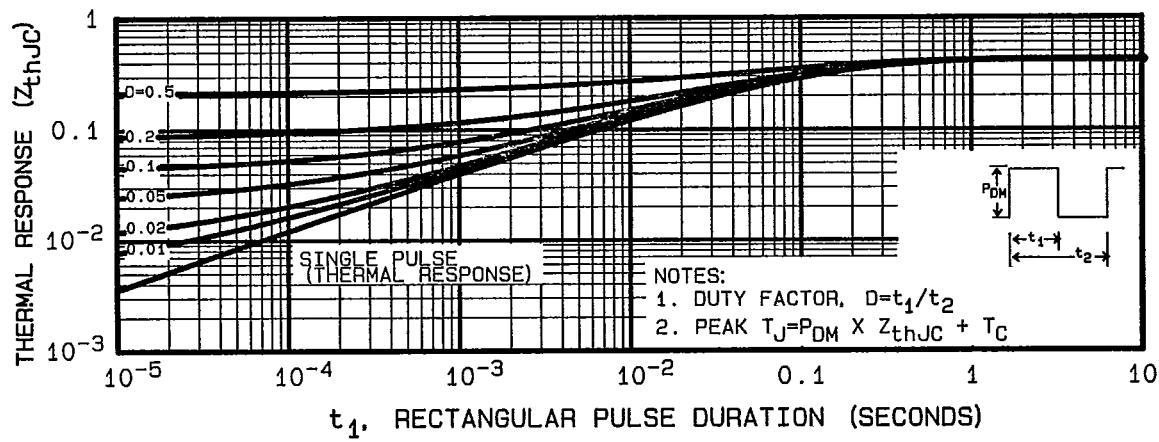

Fig. 5 — Maximum Effective Transient Thermal Impedance, Junction-to-Case Vs. Pulse Duration
① Repetitive Rating; Pulse width limited by maximum junction temperature (see figure 5)